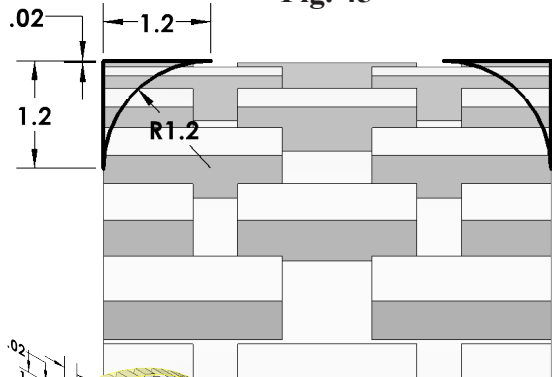

Fig. 46
Step 15. Click **Mirror Entities**  on the Sketch toolbar, **Fig. 46**.